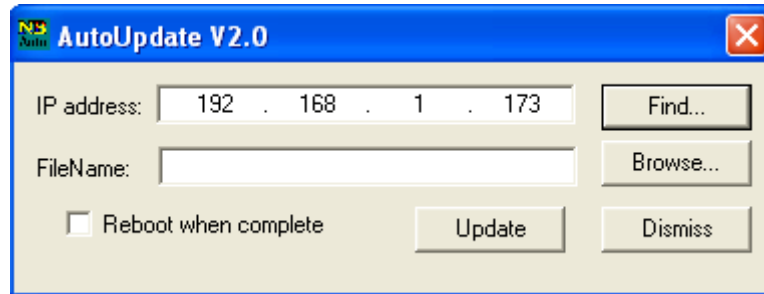

Figure 23 AutoUpdate Screen
1. Double click on the AutoUpdate icon and Figure 23 will be displayed.